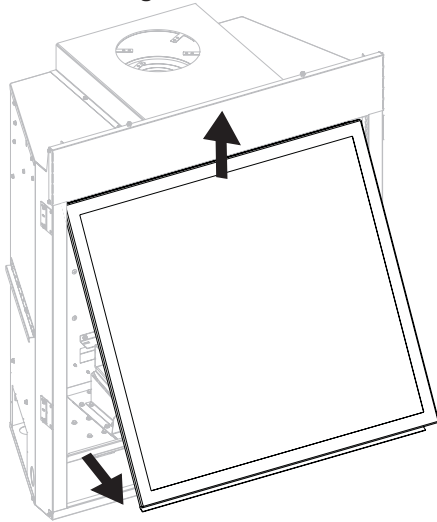

Figure 6
3. Disengage Glass Frame by pulling in upward swinging position. Place Glass Frame aside in a safe and out of the way location. **See Figure 6.**
18. Reinstall the glass frame removed in step 3. **See Figure 6.**